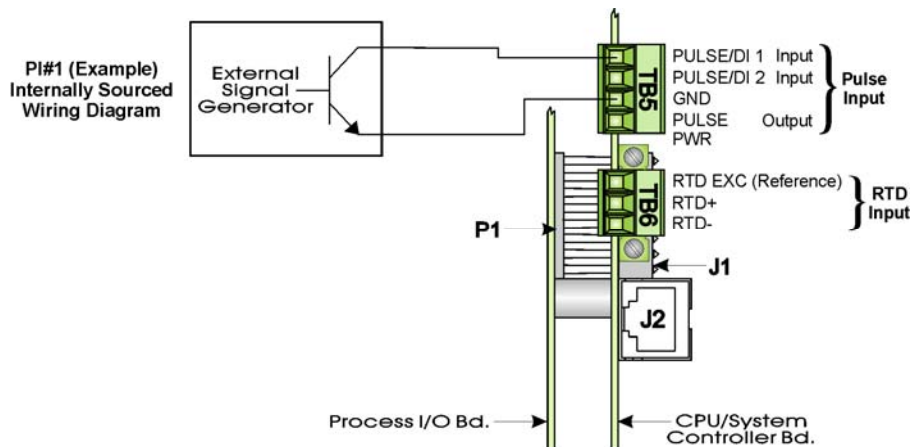

Figure 3-3. Pulse Input Wiring Diagram
**Wiring** Pulse counter/discrete inputs are field driven by open collector circuits and are sourced for 3.3V (internally) with a 200 $\mu$ A source current. See *Figure 3-3* for information on the open collector wiring arrangement.